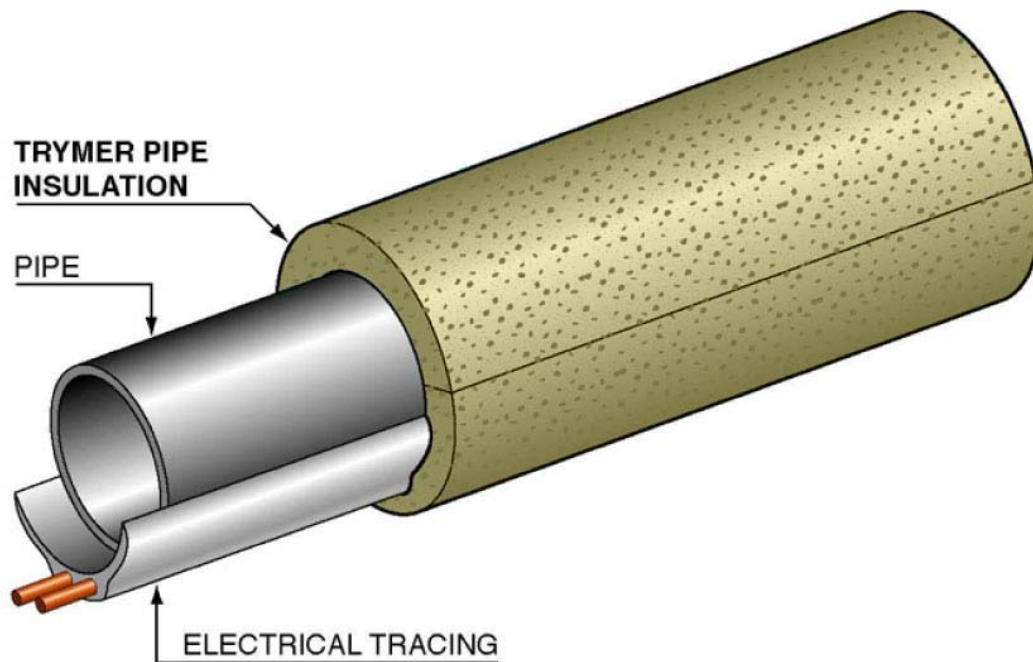

Figure 4
- 4.1.1 Heat tracing systems shall be installed prior to insulation installation. Refer to section 3.2.3 and Figure 4 in Appendix B.